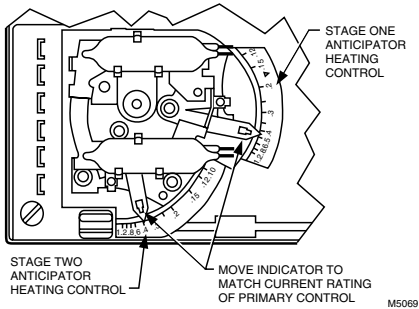

Fig. 11. Adjustable heat anticipator scales.
- 4 After mounting the thermostat, set the adjustable heat anticipator(s) to match the respective reading(s) recorded in step 3. See Fig. 11.